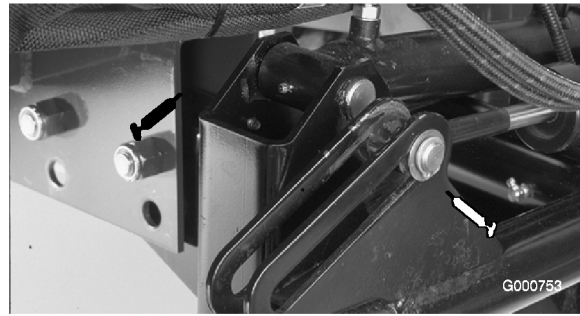

Figure 31
- Front lift cylinders (3) (Figure 31 and Figure 32)